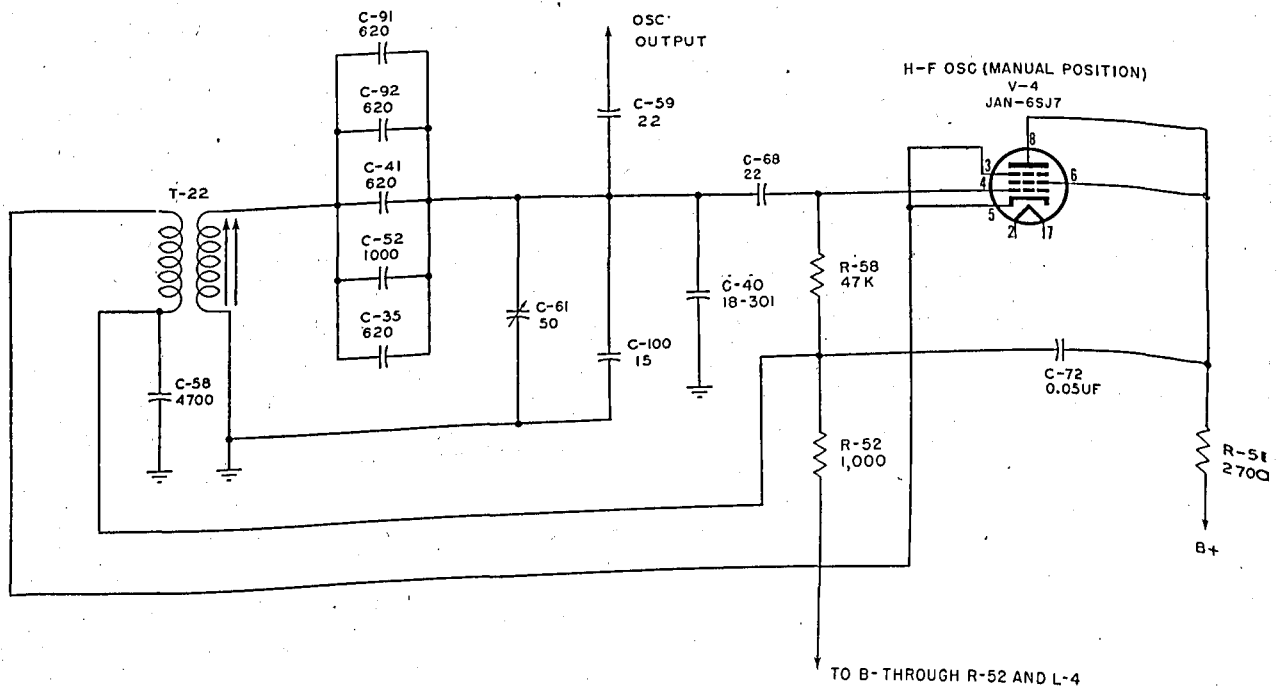
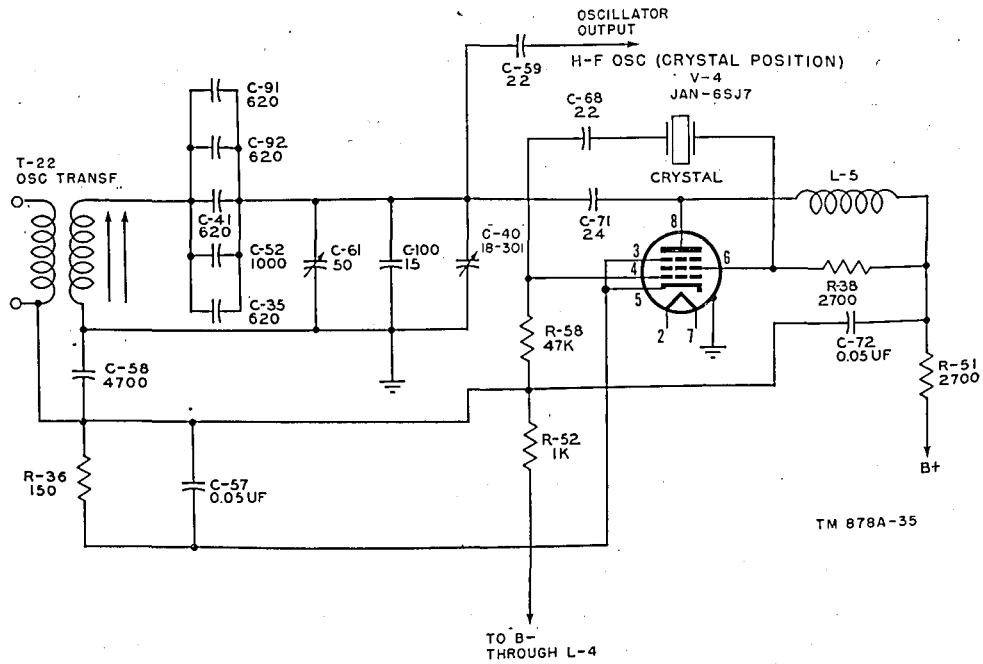

Figure 19. Variable frequency oscillator, simplified schematic diagram.
Figure 20. Crystal-controlled oscillator, simplified schematic diagram.
52. H-f Oscillator (figs. 19, 20, and 21)
a. GENERAL. Figures 19 and 20 show the h-f oscillator (V-4) whose output is fed into the mixer stage to produce an intermediate frequency of 550 kc. This oscillator, using a sharp cut-off pentode (Tube JAN-6SJ7), can be used either as a self-excited variable oscillator (fig. 19) or as a crystal-controlled oscillator (fig. 20). When the crystal frequencies are used, switch SW-2 (fig. 40), changes over to crystal operation and also selects the proper crystal to be used in any one of four preselected frequencies of operation.
(1) In figure 19, a simplified circuit is shown for explanation of manual operation of the h-f oscillator. All switching circuits have been eliminated for purposes of explanation. The tuned circuit of transformer T-22 and capacitors C-35, C-40, C-41, C-52, C-61, C-91, C-92, and C-100, located in the grid circuit, are the controlling factors for the oscillator frequency of operation. The plate (pin 8) and screen grid (pin 6) of V-4 are connected, forming a triode tube. By using the untuned winding of transformer T-22 as a feedback (plate-to-cathode) winding and locating the remainder of the transformer in the plate-to-grid circuit of the
(2) Capacitor C-40 is part of the tuning capacitor gang, and it tunes T-22 to make the h-f oscillator track with the r-f amplifier circuits so that the h-f oscillator is always 550 kc higher in frequency than the incoming r-f signal. The h-f end tracking is adjusted by trimmer C-61 (C-62, C-63, C-64, and C-67 in the other four bands, as shown in figure 40). The l-f end is taken care of by the movable metal cores located in each of the five oscillator transformers T-20, T-21, T-22, T-23, and T-24. In figure 19 (the simplified schematic), this movable core is located in transformer T-22. Grid current through grid resistor R-58 builds up the proper bias for correct oscillator operation. The oscillator output is fed to the mixer stage through capacitor C-59. Capacitors C-68 and C-72 are d-c blocking capacitors.
c. **CRYSTAL-CONTROLLED OSCILLATOR.** In this type of operation, the oscillator performs as an electron-coupled Pierce oscillator, the simplified circuit of which appears in figure 20. Switch SW-2 (fig. 40) has been placed in the crystal position, and only one crystal is shown. Resistor R-36 and capacitor C-57 provide a minimum bias for the oscillator. The crystal is connected between the control grid (pin 4) and the screen grid (pin 6) and is similar, insofar as functioning is concerned, to the basic electron-coupled oscillator principle where the screen grid is, in effect, the plate of the oscillator. Capacitor C-68 prevents dc from flowing through a crystal during CRYSTAL operation. The grid current flows through resistor R-58 and is returned to the cathode. While oscillating, the plate current through r-f choke L-5 varies, producing a voltage output across it. These oscillations are fed to the tuned output network consisting of C-35, C-40, C-41, C-52, C-61, C-91, C-92, and T-22 through coupling capacitor C-71. R-51 is the decoupling resistor and C-72 the decoupling capacitor for the plate circuit, and resistor R-52 and capacitor C-58 decouple the negative plate line (B-) from the oscillator. R-38 is the screen (acting as plate) dropping resistor. The crystals selected are always 550 kc higher in frequency than the wanted signal.
- (1) Series padder capacitors are necessary in the h-f oscillator (V-4) circuit to make the oscillator track properly with the r-f and mixer stages. The inductance of the oscillator coil and the trimmer capacity determines two points at which the oscillator circuit will track perfectly with the r-f and mixer stages. A third tracking point can be achieved by inserting the proper capacitance in series with the tuning capacitor. These three points are so arranged that they will fall at both ends of the band and in the center. Capacitors C-35, C-41, C-52, C-91, and C-92 are padder capacitors for band 5, as shown in figure 19. Several capacitors are connected in parallel to obtain the exact capacitance needed for this band. As the frequency is decreased, the amount of capacity needed in series for padding also decreases.